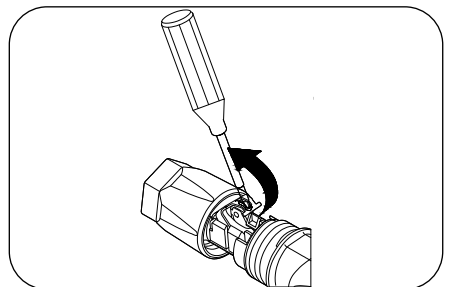

Figura 14
2. Open the spring using a screwdriver (Figura 14).